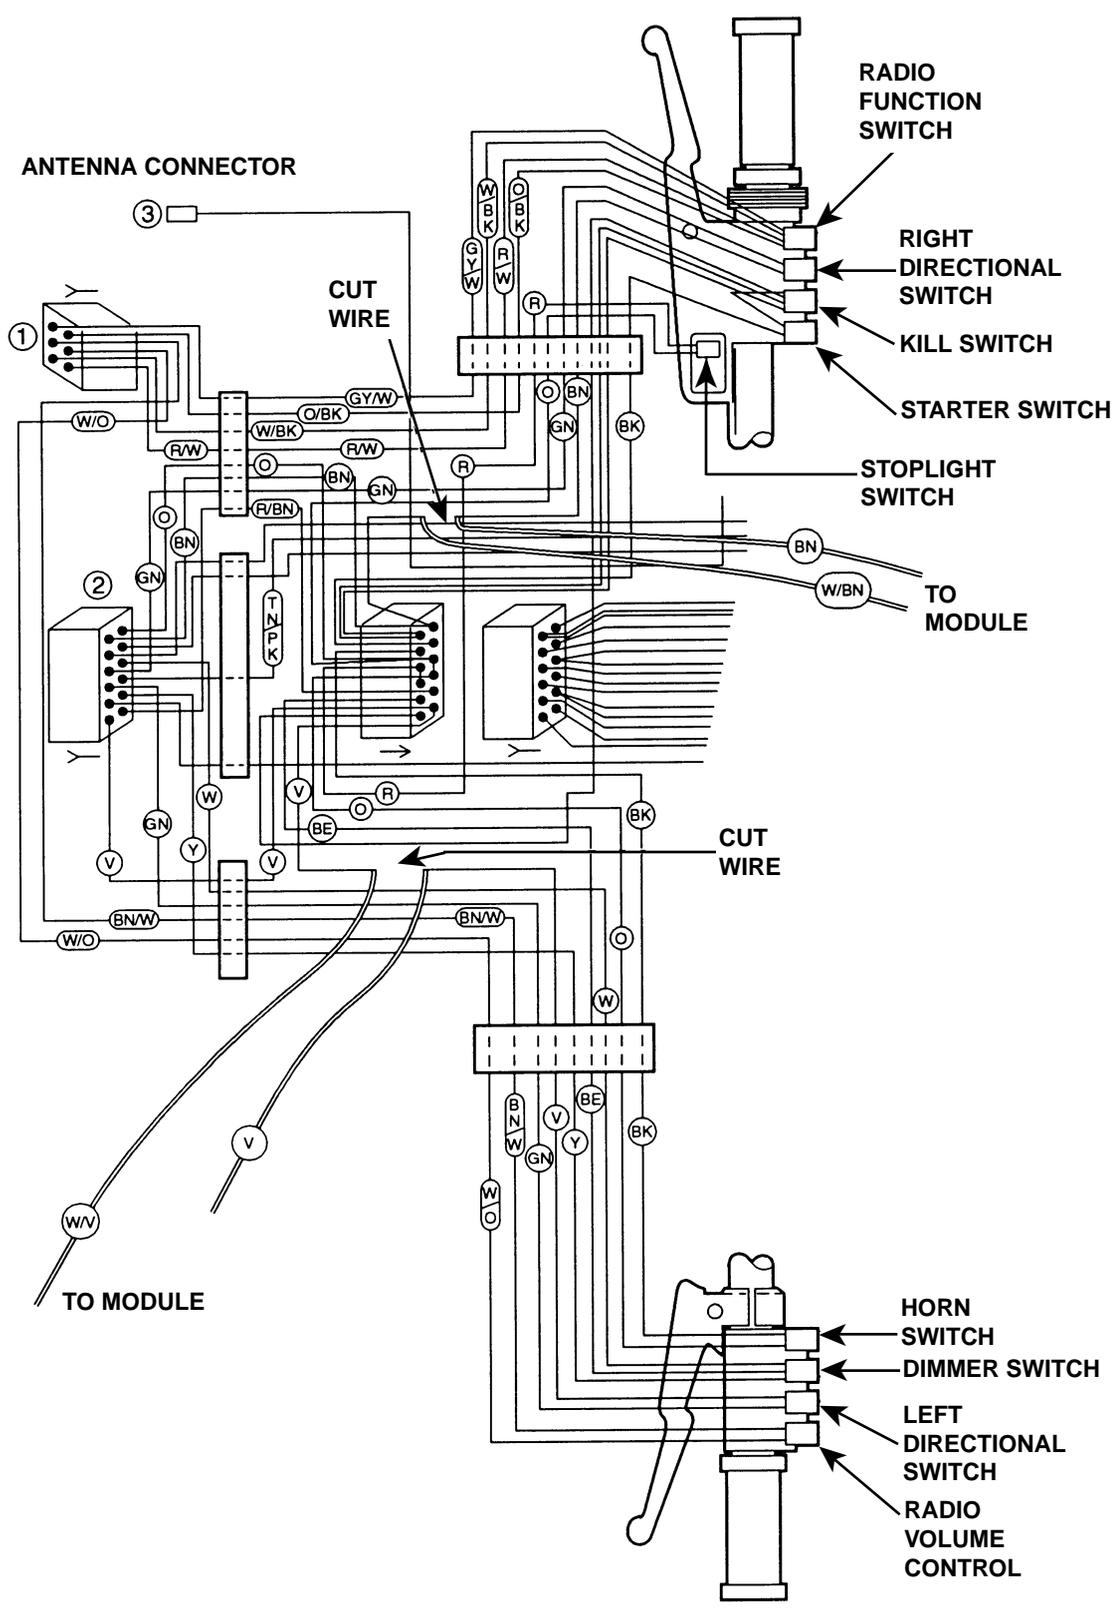

Figure 7. Module Connections For FXRT Models
5. See Figure 7. Locate violet wire from left signal light switch and brown wire from right signal light switch at 12-place pin connector half. The 12-place connector is located in front of the steering head. Cut violet and brown wires about 1-2 in. from pin connector half. Connect with Scotchlok\*, white/violet striped wire from module to violet wire going to pin connector half.